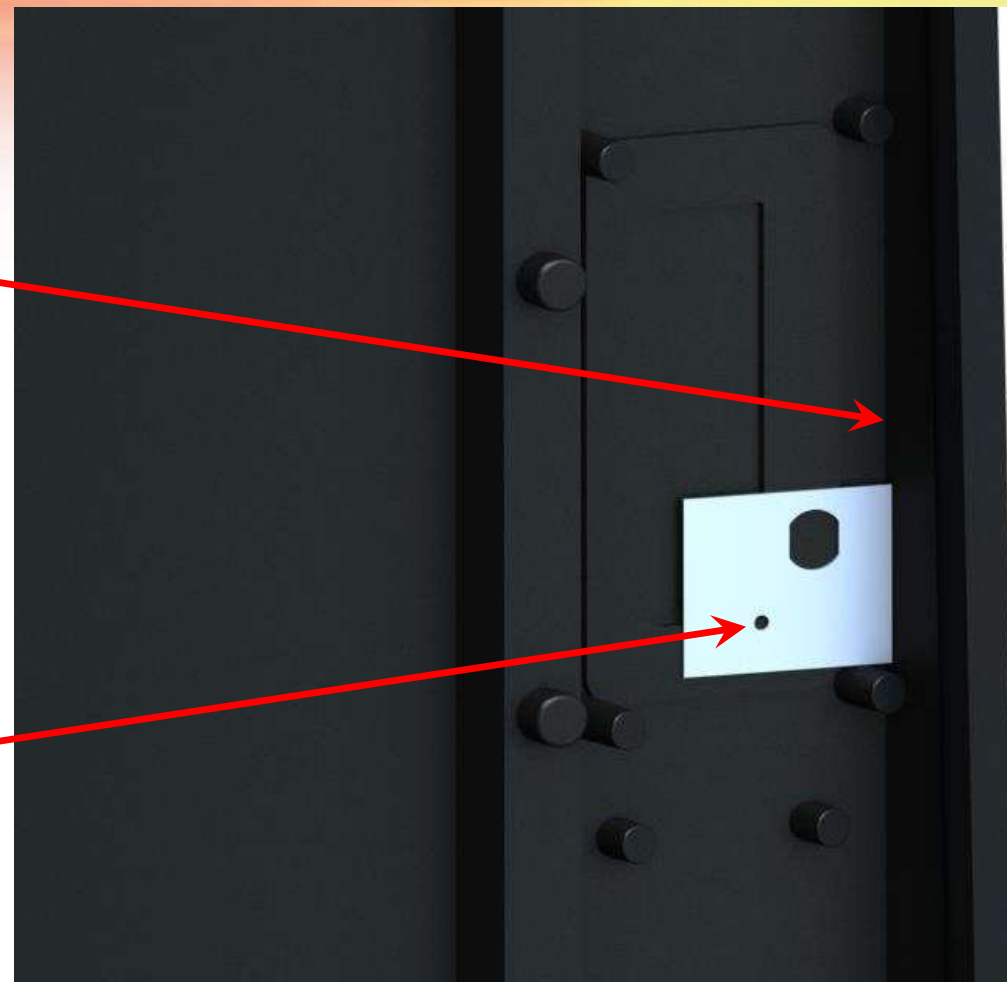

Figure 1
Place Drill Template (F) along inside edge of door panel as shown in (Fig 1) and drill a $\text{Ø}3/16$ " pilot hole.